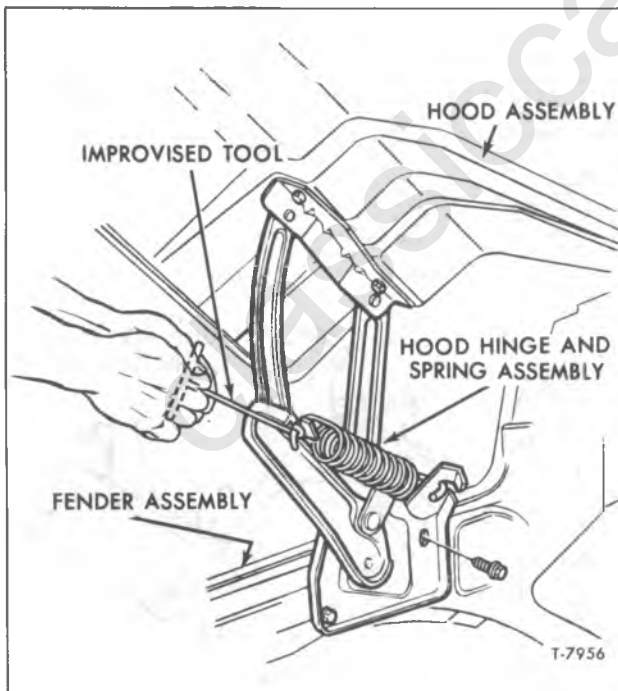

Figure 3—Removing Hood Spring
2. As shown in figure 3, engage hooked end of tool to spring, then carefully pull forward to engage or disengage spring from hinge assembly.
(Refer to Figure 3)